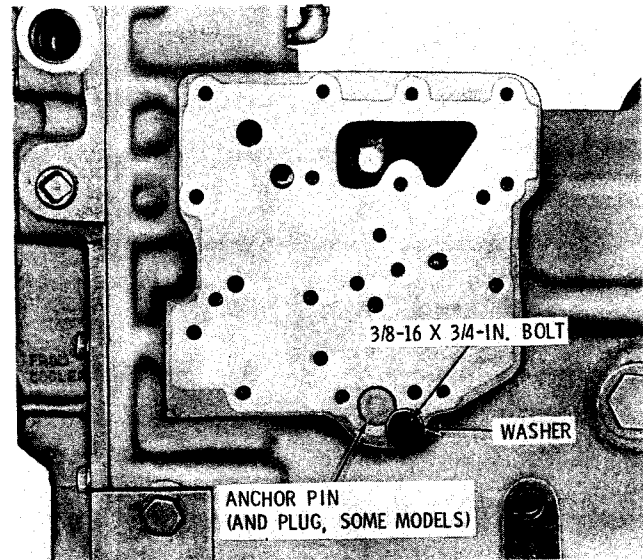

Fig. 5-7. Clutch anchor pin and plug temporarily retained
(2) Temporarily install a flat washer and a 3/8-16 x 3/4-inch bolt to retain the clutch anchor pin (and plug, if present) (fig. 5-7).